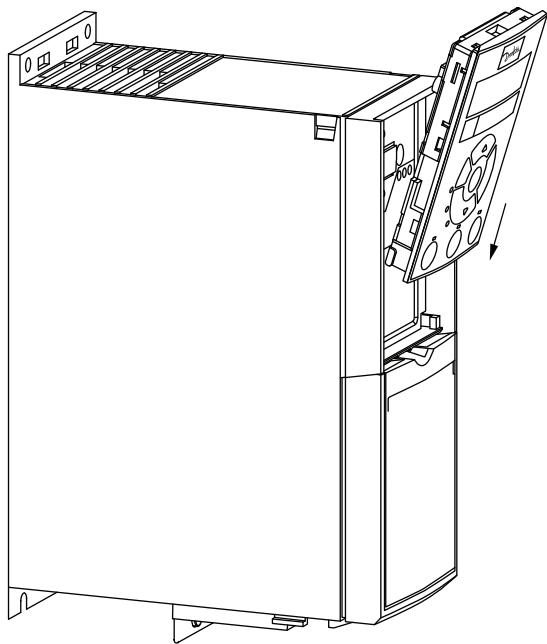

Fig. 68 — Align Bottom of VFD Keypad with Opening in VFD Front Panel
1. Place the bottom of the VFD keypad into the variable frequency drive as shown in Fig. 68.